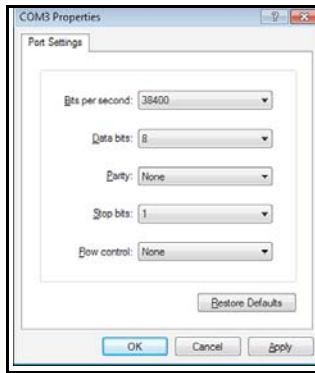

Figure 132: COM Properties
2. Start HyperTerminal and set up the communication link to match the Com port and RS232 settings of the PT878 (see Figure 132 below).